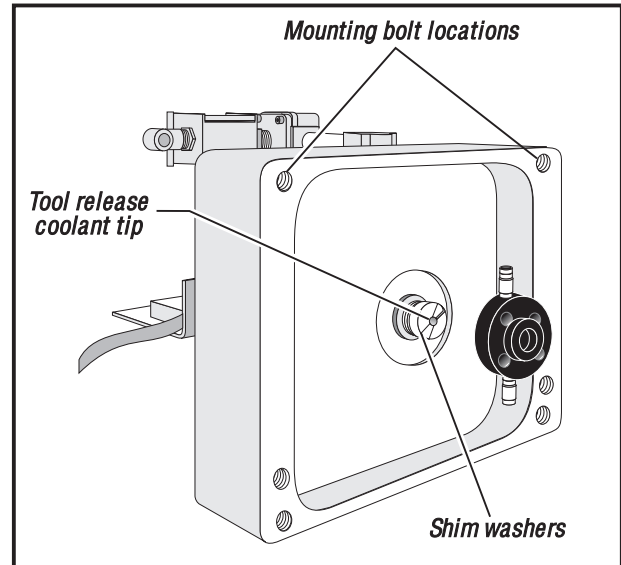

Figure 4. Coolant Tip (TSC machines only).
6. Press MDI and turn hand wheel to zero (0). Press HANDLE JOG button. Jog the Z-axis in the positive (+) direction 0.100".
- If the block is tight at 0.070 or less, the Coolant Tip (Figure 4) must be replaced. Call your dealer for replacement of the Coolant Tip and the seal housing.